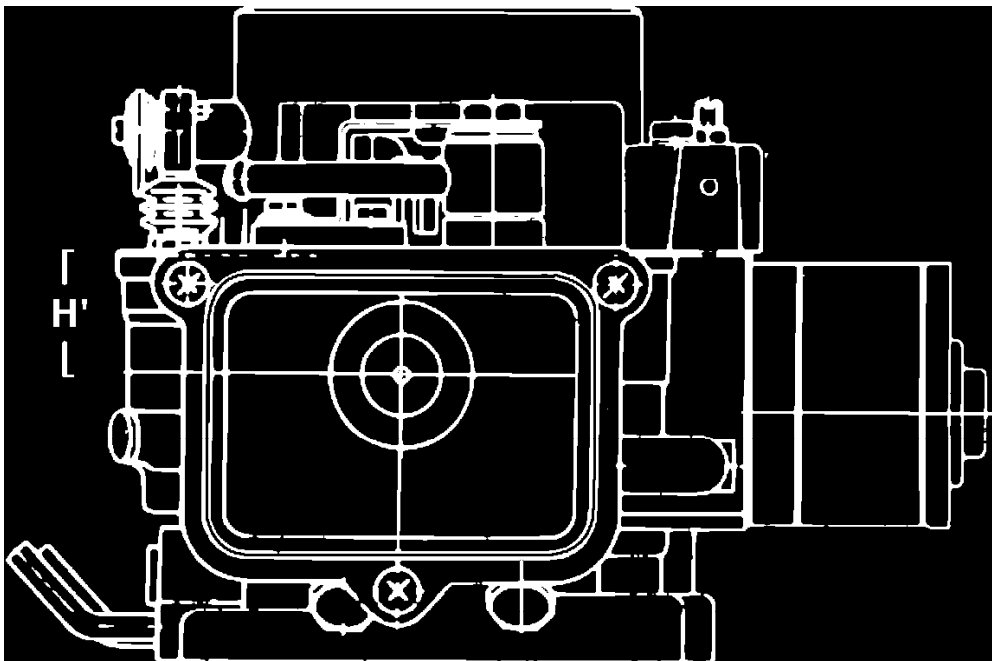

Fig. 11 Fuel level adjustment.
4. After adjustments in steps 1 and 2 have been made, make sure that when fuel is delivered to the float chamber, the fuel level is maintained at .91 inch, **Fig. 11**.